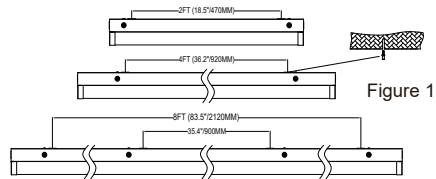

Figure 1
Step1. According to the different lengths of the product, drill holes at the corresponding positions and drive the rubber plugs from the accessory kit into the holes (Figure 1)